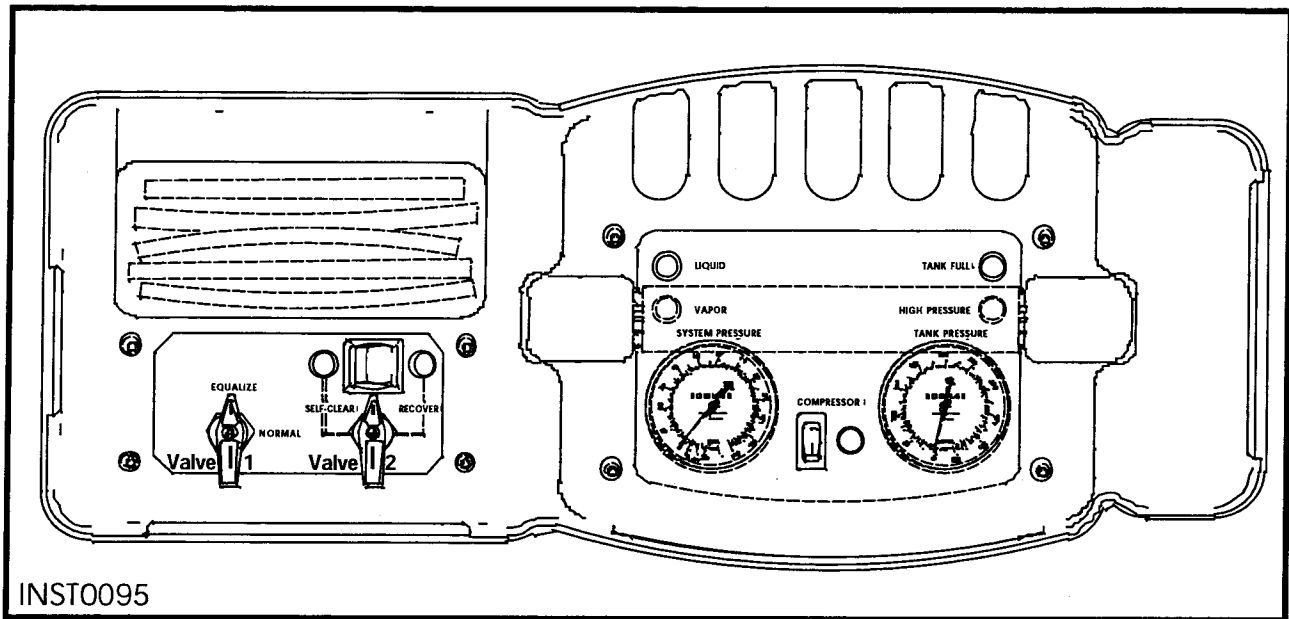

Figure 1—Top View of Unit
4. Be sure Valve 2 on the control panel is pointing toward RECOVER. Also, toggle the Valve 2 switch so that the RECOVER light comes on. (See Figure 1.)
5. Turn Valve 1 to EQUALIZE for two to five seconds. This equalizes pressure on the high and low side of the compressor for easier start-ups. Then turn Valve 1 back to the NORMAL position. (See Figure 1.)
6. Press the COMPRESSOR switch to ON. The compressor light will come on and you will hear the compressor start. (See Figure 1.)
4. Turn Valve 2 on the control panel to SELF-CLEAR. Toggle the Valve 2 switch to the SELF-CLEAR position. (See Figure 1.)
5. Turn Valve 1 on the control panel to EQUALIZE for two to five seconds. This equalizes pressure on the high and low side of the compressor for easier start-ups. Then turn Valve 1 back to the NORMAL position. (See Figure 1.)
6. Press the COMPRESSOR switch to ON. You will hear the compressor start and the compressor light will come on. (See Figure 1.)